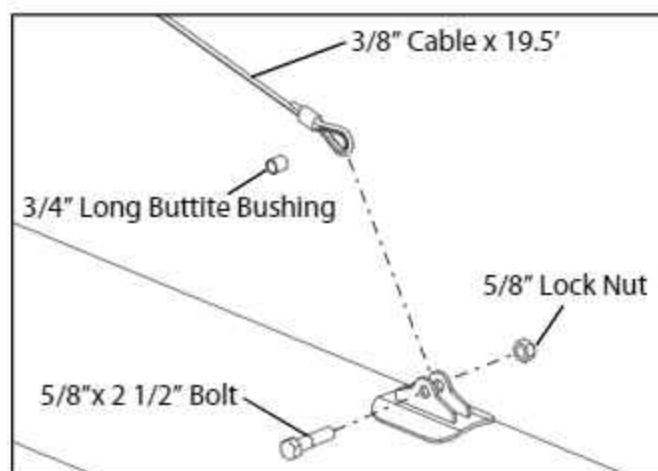

FIG. 3-15. 1070 Truss Cable Mounting
21. Attach the looped end of the 19.5' truss cable to the mount on the tube, as shown in Fig. 3-15.